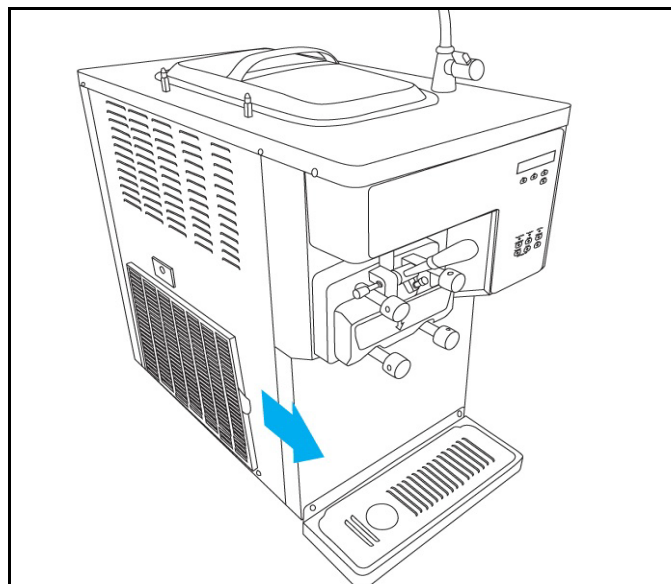

Figure 5-44
2. Shake off filter dust. Using a brush, wash it thoroughly with water. Figure 5-44. (After washing dry the filter)